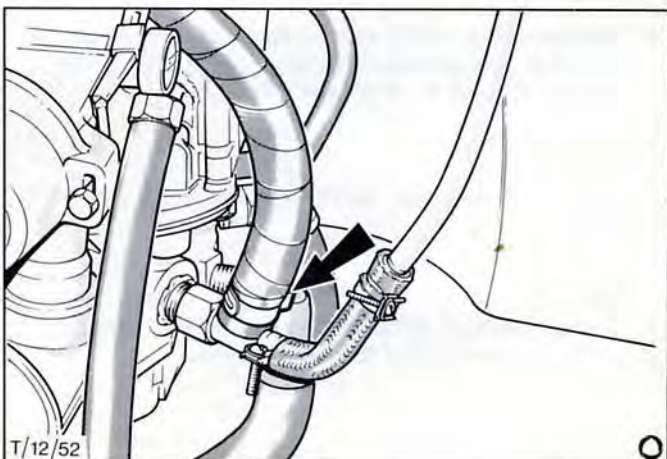

Fig.61. Manifold connection OHC variants.
2. Reconnect hose to inlet manifold connection. Fig.61.